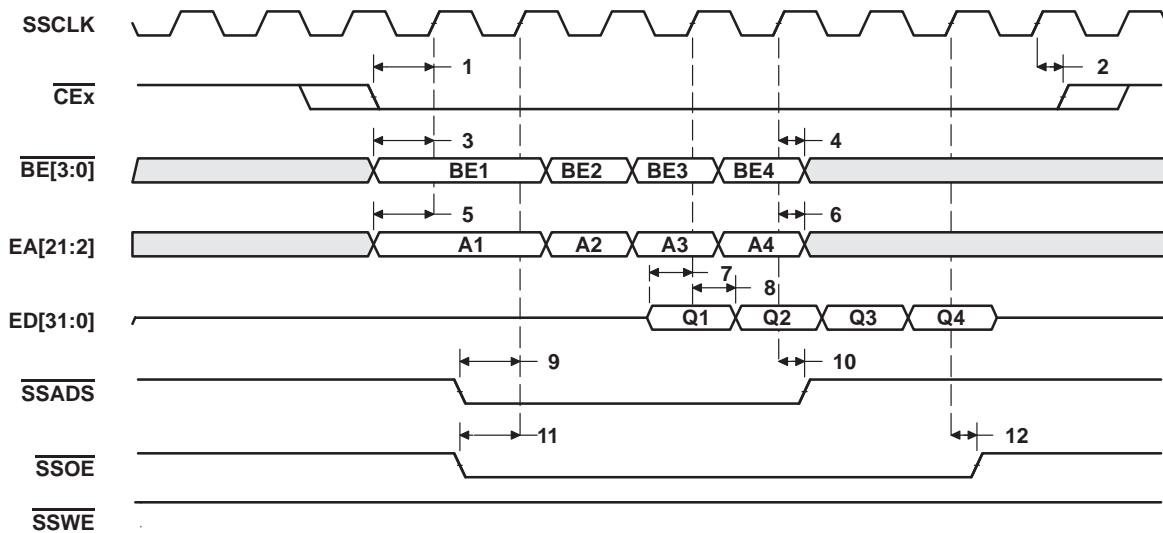
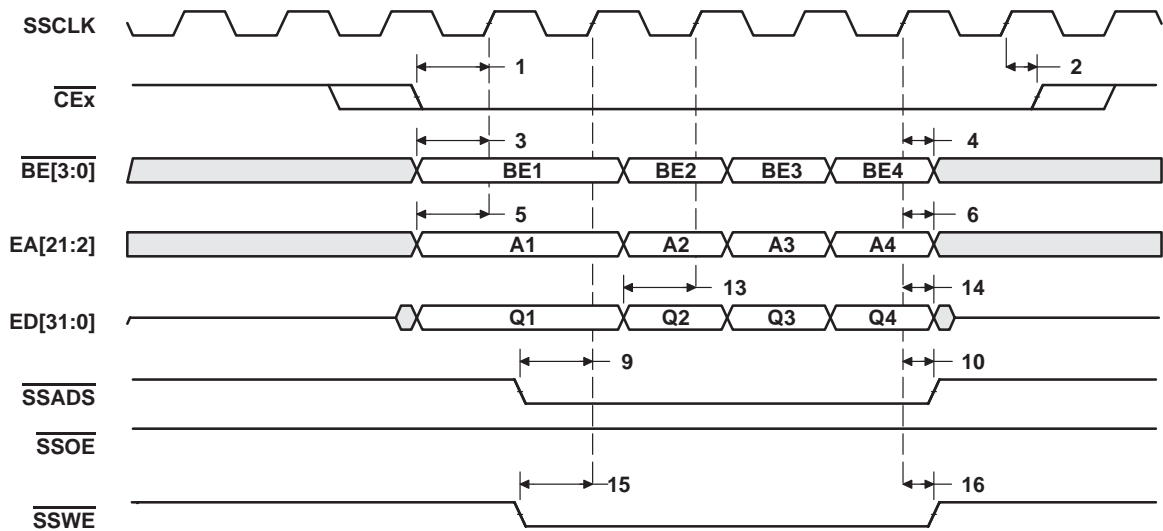

Figure 16. SBSRAM Read Timing (1/2 Rate SSCLK)
Figure 17. SBSRAM Write Timing (1/2 Rate SSCLK)
**timing requirements for synchronous-burst SRAM cycles (half-rate SSCLK) (see Figure 16)**
(see Figure 16 and Figure 17)**